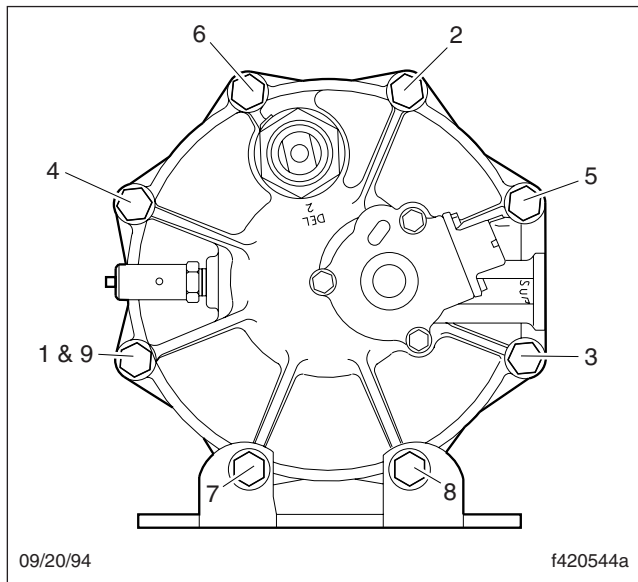

Fig. 2, AD-9 End Cover to Housing Torque Pattern
16. Install the 6 bolts, 12 washers, and 6 new Nylok nuts. Torque the Nylok nuts in a star pattern 17 to 24 lbf-ft (23 to 33 N-m). See **Fig. 2**.